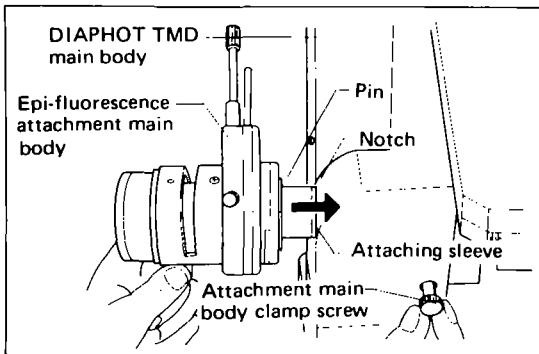

Fig. 3
1. Attaching the epi-fluorescence attachment main body (Fig. 3)